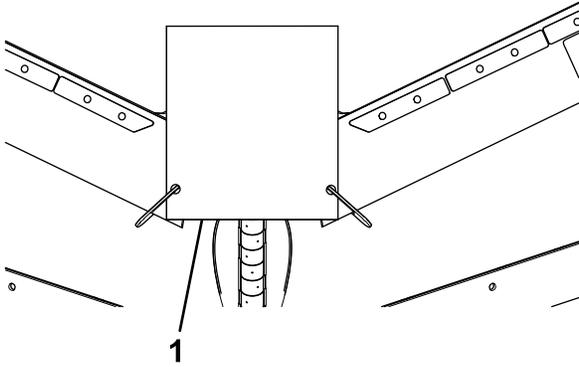

Figure 6
- Clamp the center belting in place (Figure 6) after aligning it as follows: